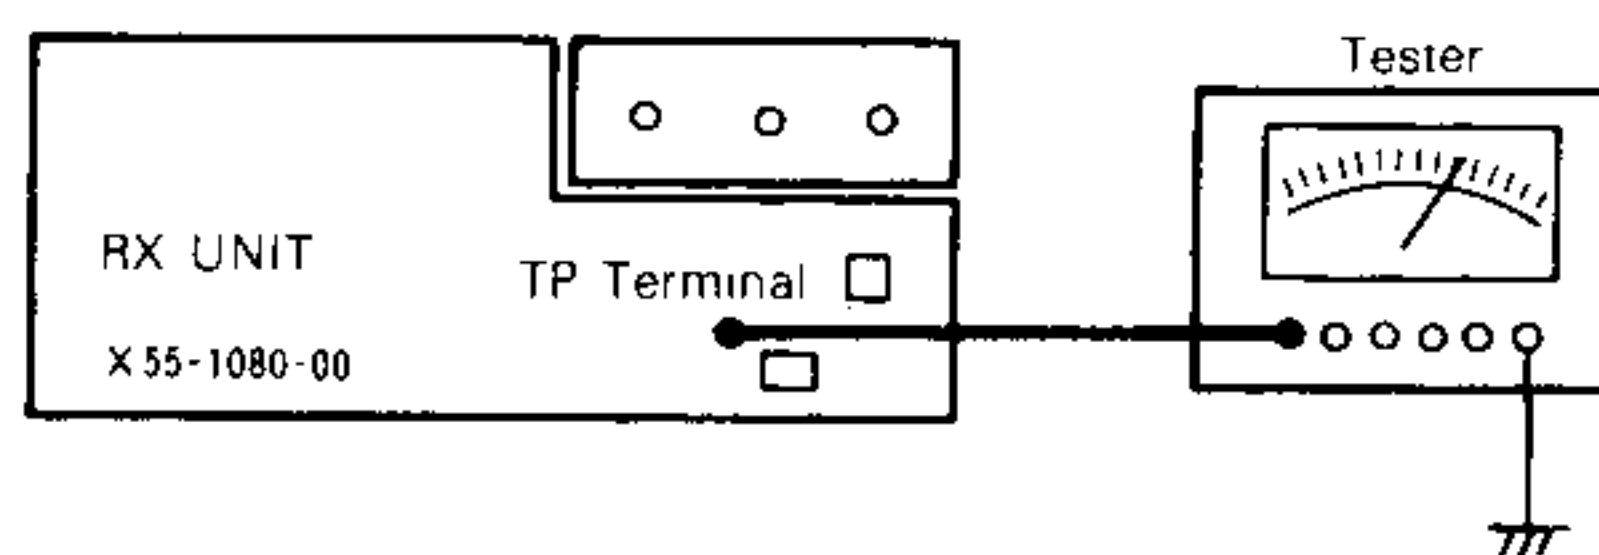

FIG. 17 NB ADJUSTMENT
- (1) Connect a voltmeter (or tester) to the TP terminal on the RX unit (Fig. 17). Set the SSG input to 20 ~ 30dB and then adjust L17 and L18 for minimum reading on the voltmeter. During the adjustment, the AF waveform should be about 1.000Hz.
- (2) Connect the noise generator to the ANT terminal and fine adjust L17 until the noise waveform on the oscilloscope becomes minimum.